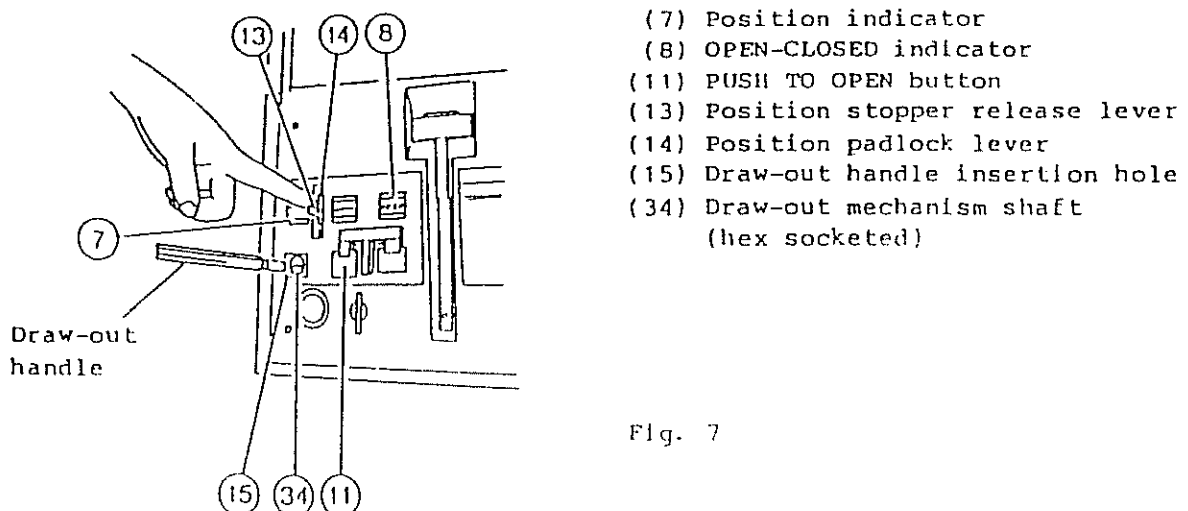

Fig. 7
- 1) Check that the breaker is OPEN. If it is CLOSED, press the PUSH TO OPEN button (Fig. 7 (11)) to open the breaker.
- 3) Turn down the position stopper release lever (Fig. 7 (13)) to open the shutter of the draw-out handle insertion hole (Fig. 7 (15)).
- 4) Engage the draw-out handle with the draw-out mechanism shaft (Fig. 7 (34)) and turn the handle counter-clockwise to move the breaker body. As the breaker body is drawn out the position stopper release lever (Fig. 7 (13)) automatically returns to the up position, but leave it as it is.
When the breaker is drawn out to the TEST position, a metallic click will be heard, the breaker will be locked in this position, and a further turning effort on the draw-out handle will be stopped. The position indicator (Fig. 7 (7)) now shows "TEST". Do not attempt to force-turn the draw-out handle under this condition.
- 1) After the breaker body has been drawn out to the TEST position, turn down the position stopper release lever (Fig. 7 (13)) again.
- 2) Turn the draw-out handle counter-clockwise to move the breaker body. As the breaker body is drawn out the position stopper release lever (Fig. 7 (13)) automatically returns to the up position, but leave it as it is. When the breaker is drawn out to the ISOLATED position, a metallic click will be heard, the breaker will be locked in this position, and a further turning effort on the draw-out handle will be stopped. The position indicator (Fig. 7 (7)) now shows "ISOLATED". Do not attempt to force-turn the draw-out handle under this condition, but remove it.